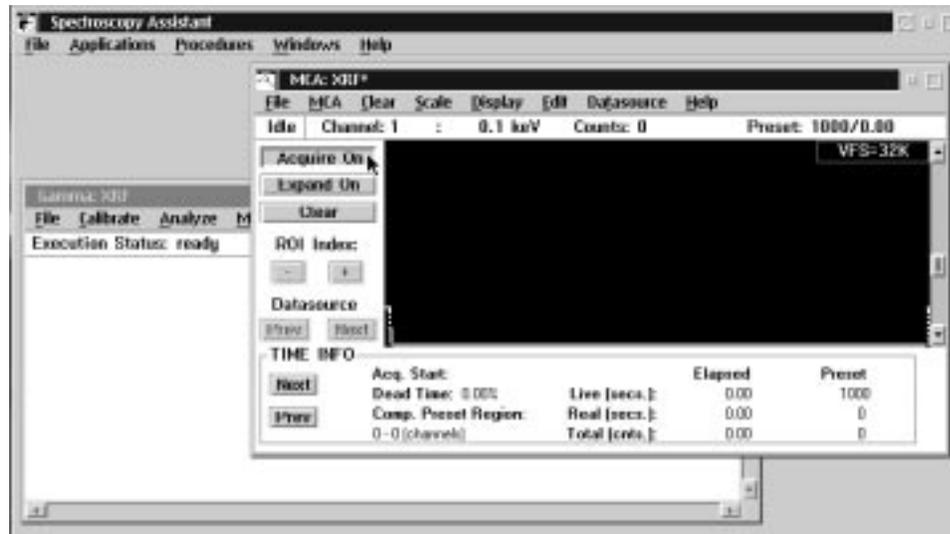

Figure 9. Window showing “Acquire On” being selected to start data acquisition for the energy calibration.
13. Select the “Acquire On” button as shown in Figure 9. This starts the acquisition of data to be used in the energy calibration. Make sure the spectrum is cleared as described in Step 9, above. Also, make sure the “Scale” menu in “MCA View Control” is set to “Auto.”